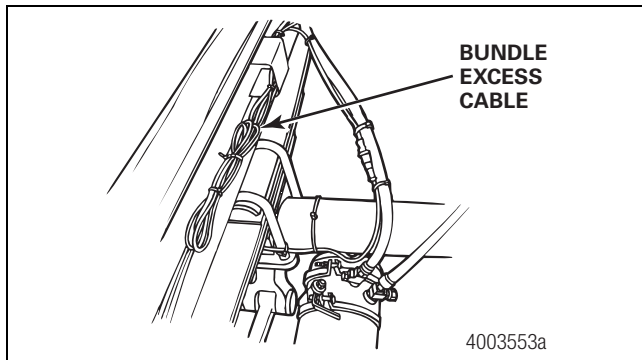

Figure 27
- D. Bundle any excess cable in a loop (bow tie) and secure the cable in the sub-frame. Figure 27.
- Bundle any excess cable in a loop (bow tie). Figure 27.